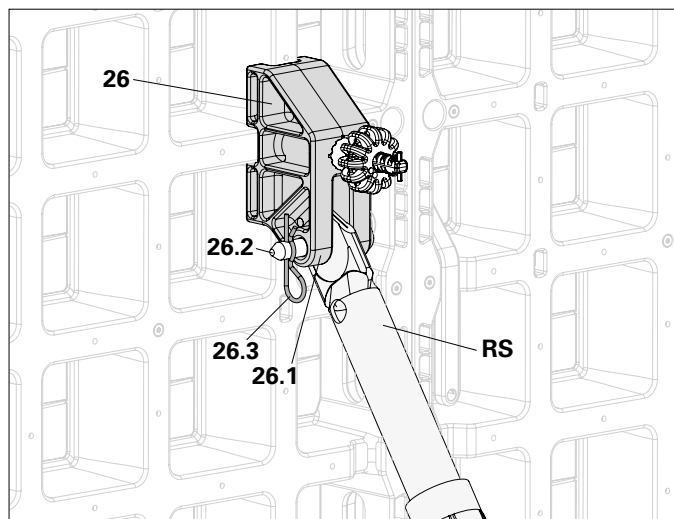

Fig. A6.07
Connect Push-Pull Prop (RS) and connection lugs (**26.1**) with bolts (**26.2**) and cotter pins (**26.3**). (Fig. A6.07)